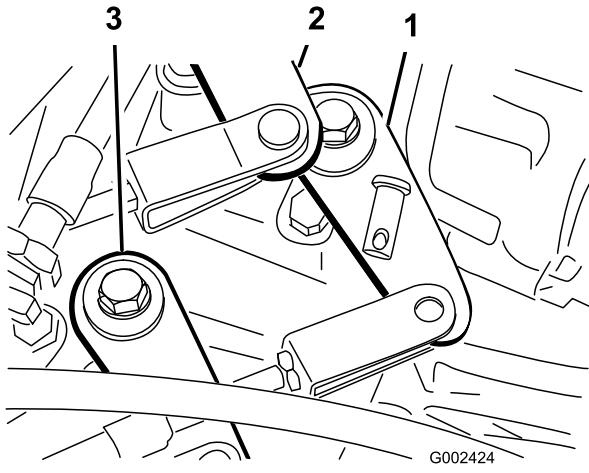

Figure 44
2. Remove the clevis pins securing the shift cables to the transaxle shift arms (Figure 44).
1. Remove the clevis pin securing the high-low cable to the transaxle (Figure 44).